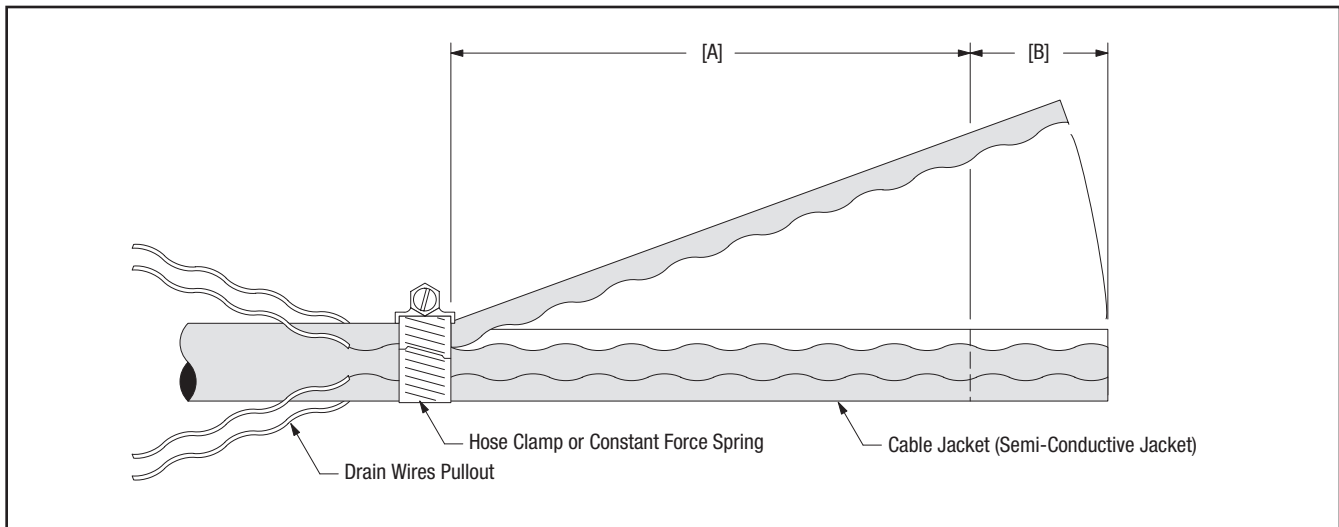

Figure 17
14.2 Remove drain wires from semi-con jacket for distance [A] + [B] + 1" (25 mm), as shown in *Figure 17* and *Table 4*. **BE SURE TO ALLOW FOR DEPTH OF TERMINAL LUG** Dimension [B] and see the **NOTE** below concerning Aluminum Lug and Connector growth allowances.
14.3 Install hose clamp, or constant force spring, at dimension [A] + [B] and cut 80% through jacket (*Figure 17* and *Table 4*).